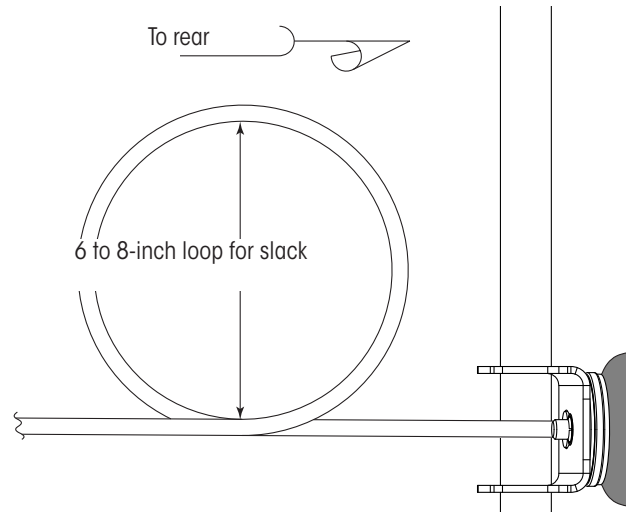

Figure 40: Creating a slack loop in the air line
3. **Make** a six to eight inch slack loop (Figure 40) in the air line near the front of the actuator.